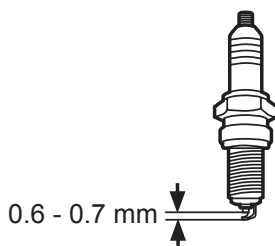

Fig. 20
- > Check the spark plug gap; it should be 0.6 – 0.7mm (Fig. 20).